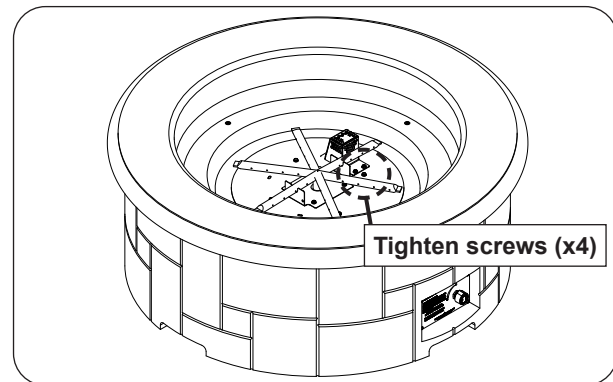

Fig. 32-3 Install burner
2. Use a $\frac{5}{16}$ " nut driver to fasten the burner to the base (see Fig. 32-3).